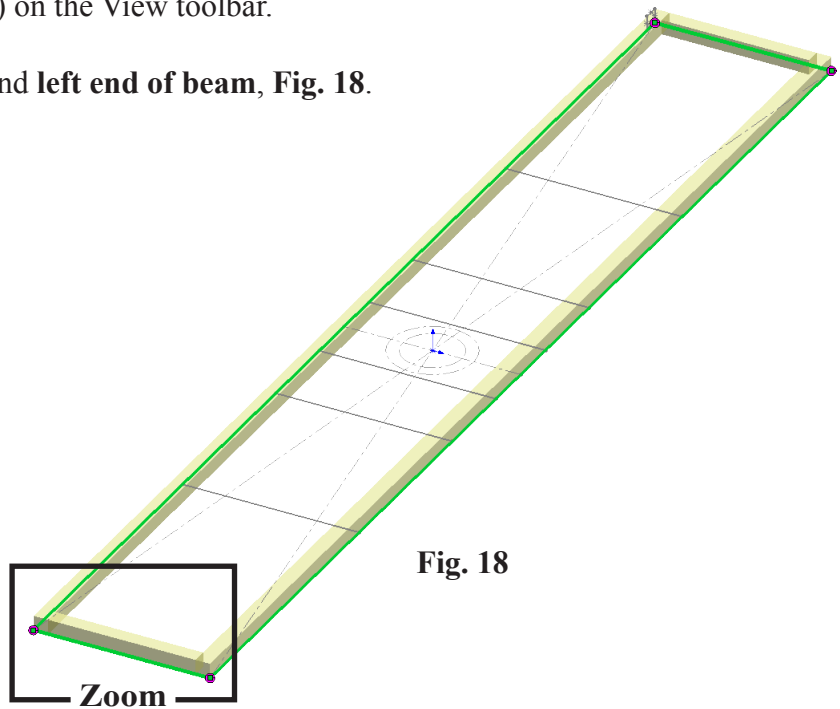

Fig. 18
Step 9. Click Zoom to Fit  (F) on the View toolbar.
Step 10. If necessary, Zoom in around left end of beam, Fig. 18.